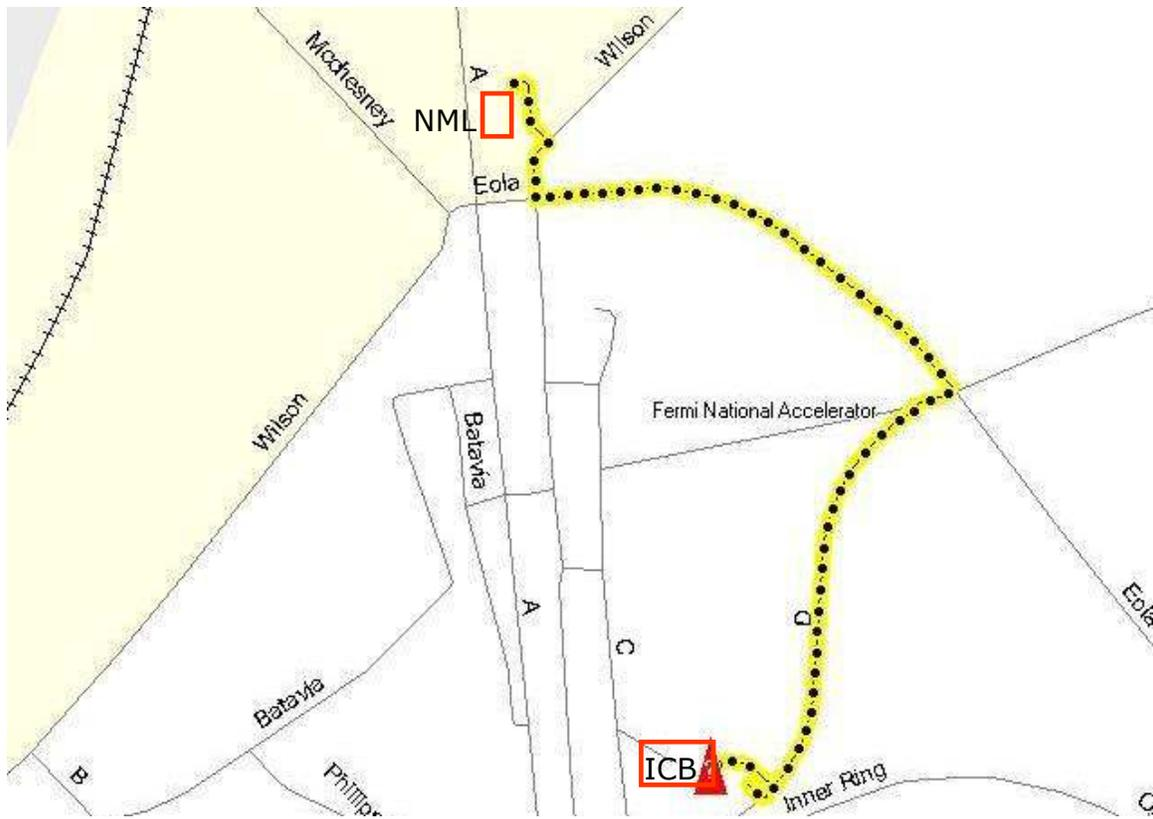

Figure 3. Fermilab route for transport.
- Follow route outlined in Figure 3 (Security will provide constant support to prevent unnecessary stops)